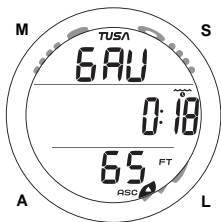

Fig. 89 - GAUG DIVE MAIN
**Gauge Dive Main** information includes (Fig. 89) -